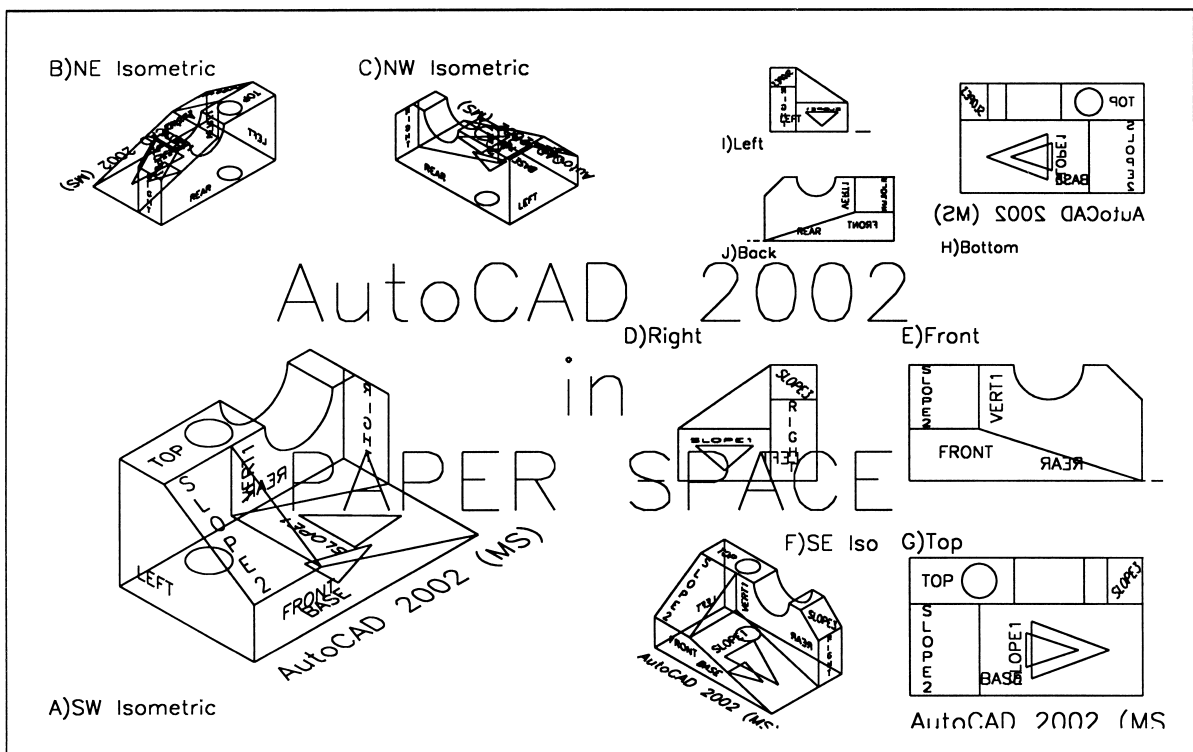

Figure 11.4 Completed paper space exercise with 3DWF.
- 8 The ten views of the model will be displayed with text but without the viewport borders – Fig. 11.4